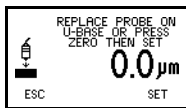

Figure 28. Zero the display
- Press **ZERO** softkey to zero the display (Figure 28).